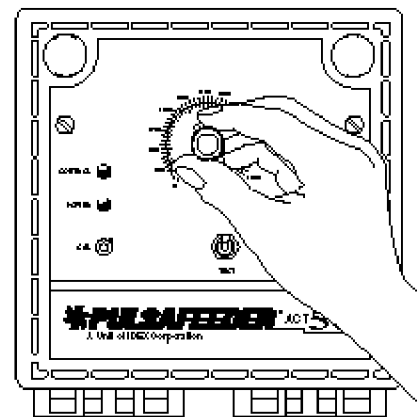

Fig. 9 Set Trip Point
1) Turn Trip Point Knob to position pointer on scale to desired trip point. (See Fig. 9)